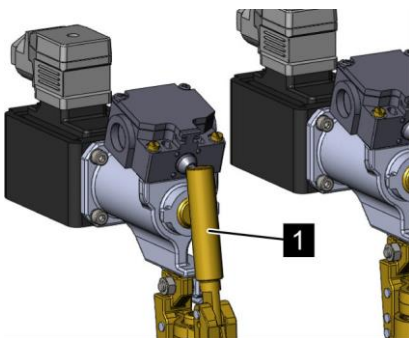

Fig. 164: Valve lever
13. ➤ Swing the valve lever (Fig. 164/1) of the pilot distributor upward again.